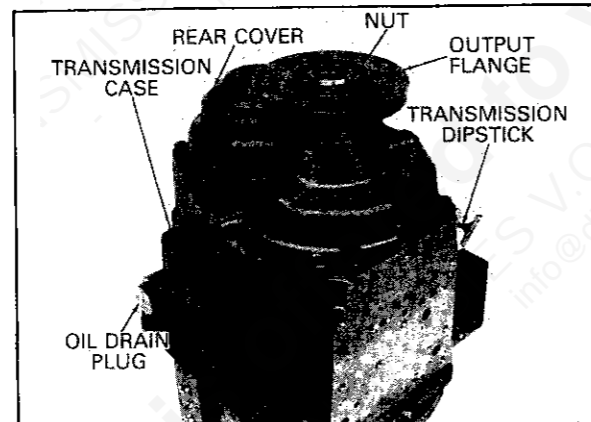

FIG. 42 OUTPUT FLANGE INSTALLATION
47. Using the holding tool to hold the countershaft front gear, assemble output flange and nut to the output shaft (Fig. 42). Tighten the coupling nut to 200-250 pounds-feet (271-340 N·m).